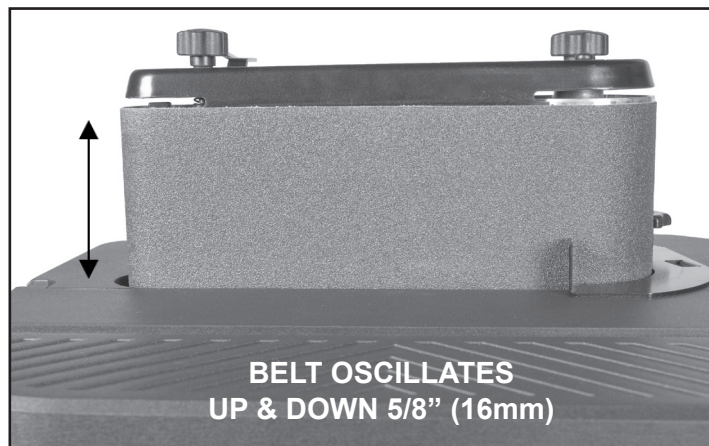

FIG. 12
1. Start the machine and wait until the motor has build up to full speed. The 50-310 Sander features a 2" x 4" Sanding Belt that automatically oscillates (moves up and down) 16mm (5/8"). This movement ensures that the Belt's sandpaper gets maximum sanding use along the belt and not wear in just one area. FIG. 12.